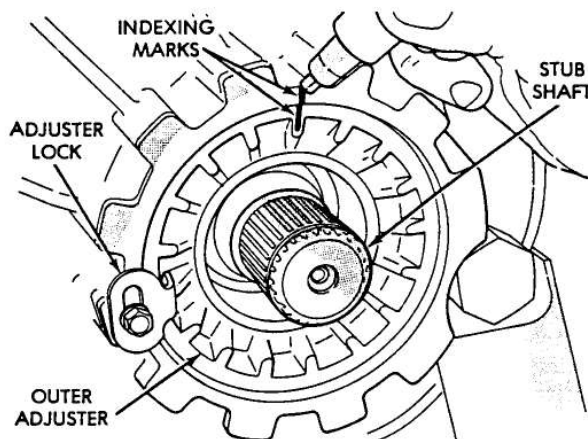

Fig. 19 Indexing Outer Adjuster
- (6) Index outer adjuster (Fig. 19). Remove lock bracket and back out adjuster exactly one revolution. Then remove differential cover.